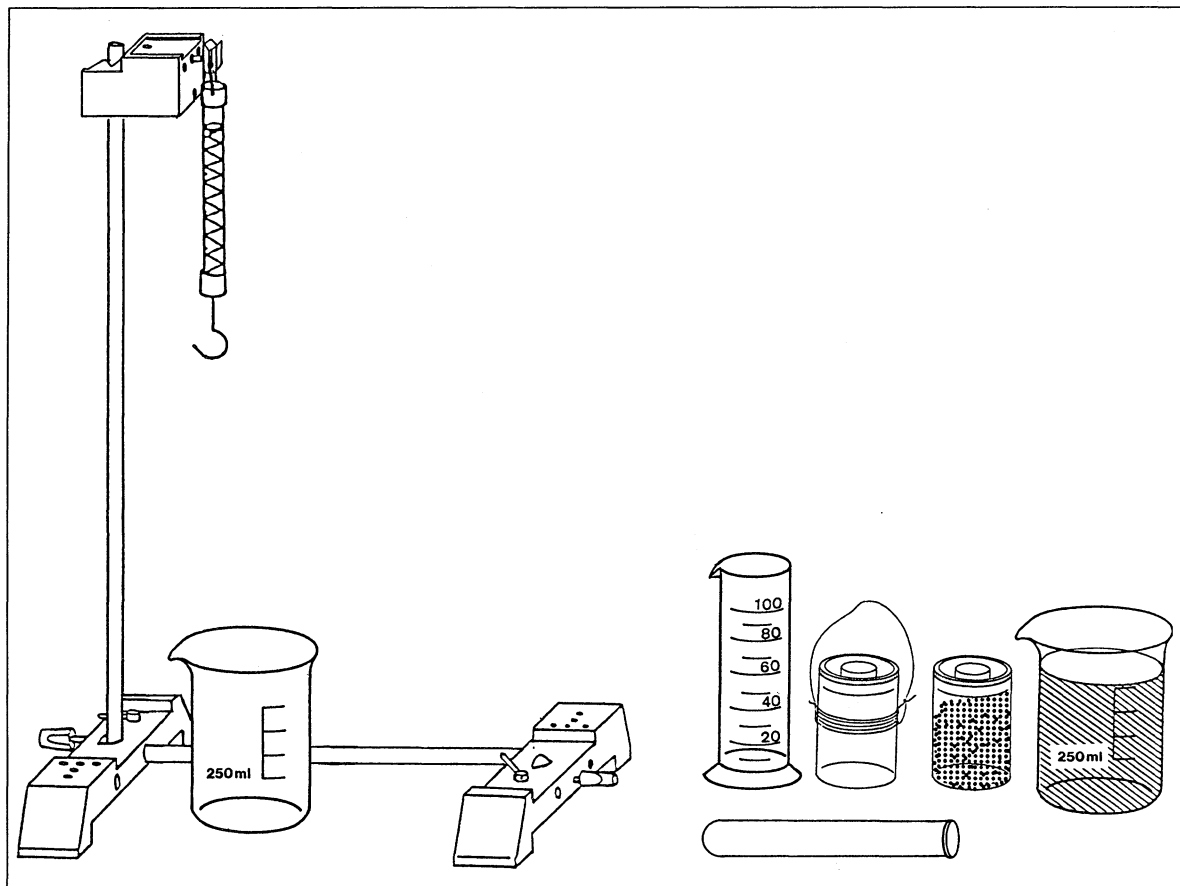

Fig. 1 Setup for investigating sinking, floating and buoyant bodies.
1. Set up the stand as shown in fig. 1. Attach the dynamometer to the sleeve block using the retaining clip.